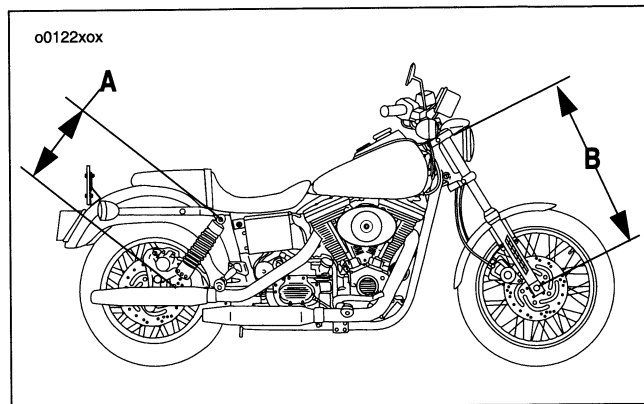

Figure 25. Preload Measurement
3. See Figure 25. At the rear shock, measure the distance A, from the upper shock bolt center to the lower shock bolt center.